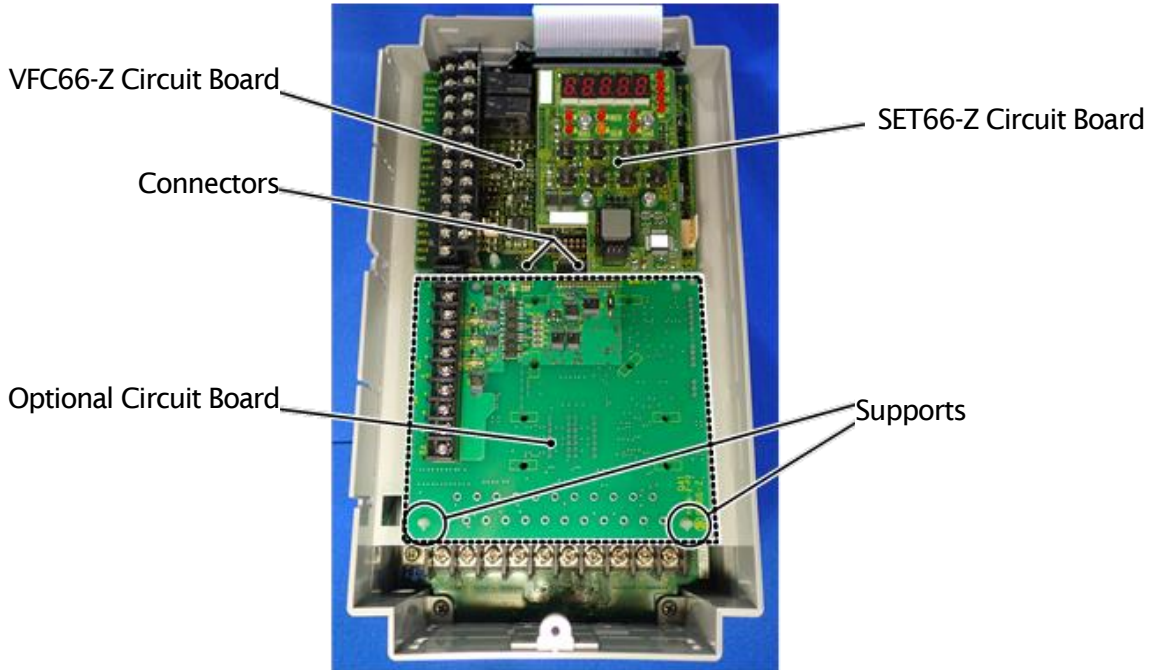
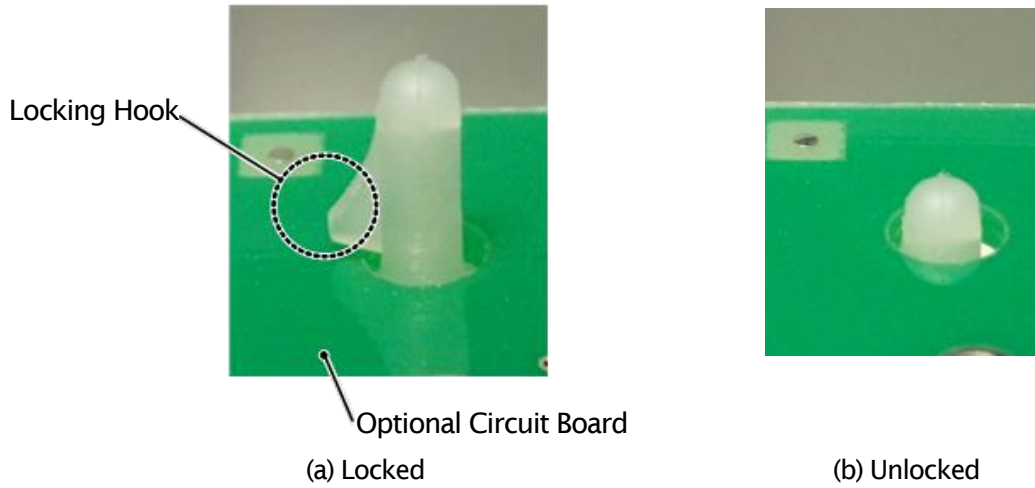

Figure 3.6 CC66-Z Installation Position (VF66B-2R222)
Figure 3.8 Support Locking Hook
- (1) Confirm that the power is off before performing any work.
- (2) Install the CC66-Z board in the location designated by the dotted lines shown in Figure 3.6. (The figure shows the VF66B-2R222 model, however, the installation location is the same for other models.) If another optional circuit board is already installed, remove it by following the procedure described below. If another optional circuit board is not already installed, skip to (6).
- (3) In order to safely remove the optional circuit board, first remove the SET66-Z board. Remove the 4 screws indicated by the circles in the figure on the right. Pull the SET66-Z board away from the VFC66-Z board in order to detach it.
- (4) 2 board supports are included to mount the optional circuit board to the inverter housing, as indicated by the circles in Figure 3.6. Press down on the board support locking hooks as shown in Figure 3.8 (a) to remove the board. Do not lift the bottom edge of the board too much, the connectors could be damaged.
- (7) Align the four holes of the CC66-Z board with the 2 board supports indicated by the circles in Figure 3.6.
Push down on the board until the support locking hooks snap into place as shown in Figure 3.8 (a).